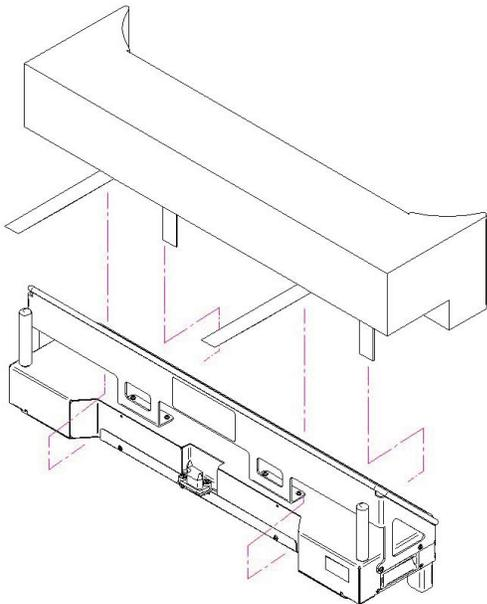

Figure 78: Strapping the mattress to the optional bed extender
1. Strap the appropriate mattress extender cushion onto the optional bed extender (Figure 78 on page 90).